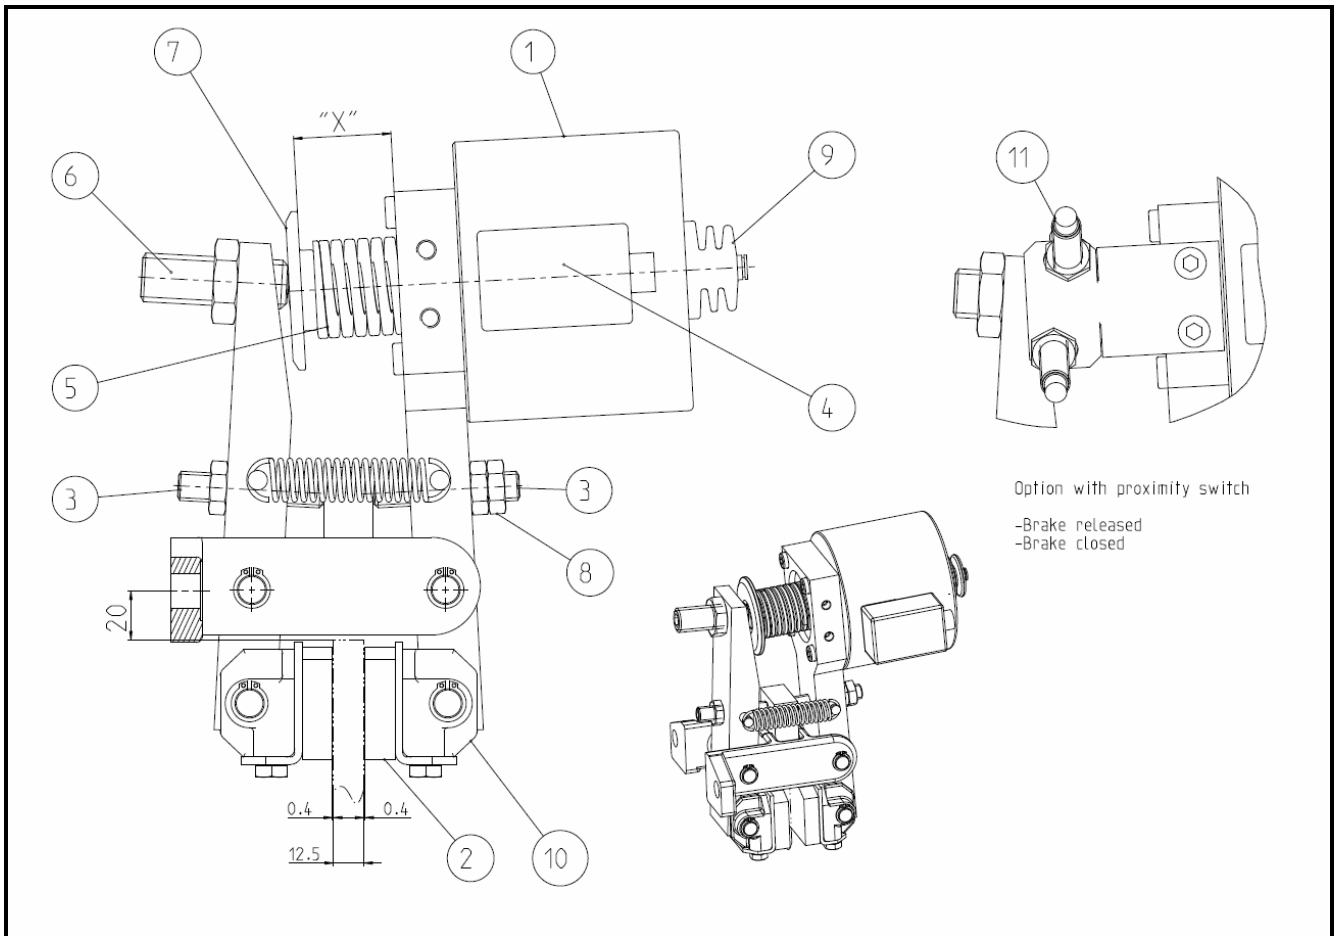

Fig. 3.1
When the brake calliper closed, measure the distance between spring control (7) (see fig. 3.1) and brake lever.
When brake pads are worn, in the closed condition of the brake calipers tension in the spring is reduced increases and the distance `X` between spring control and brake lever (see fig. 3.1) becomes larger. This reduces braking force. At a protrusion distance of 45 mm, at the latest, braking force must be readjusted as described in Section!